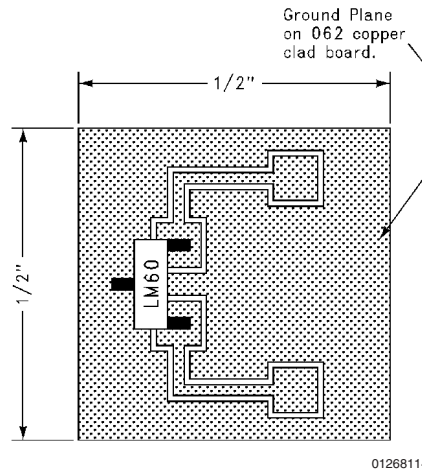

FIGURE 2. Printed Circuit Board Used for Heat Sink to Generate All Curves.
Typical Performance Characteristics To generate these curves the LM60 was mounted to a printed circuit board as shown in *Figure 2*.
Typical Performance Characteristics To generate these curves the LM60 was mounted to a printed circuit board as shown in *Figure 2*. (Continued)
**-Heat sink used is 1/2" square printed circuit board with 2 oz. foil with part attached as shown in *Figure 2*.